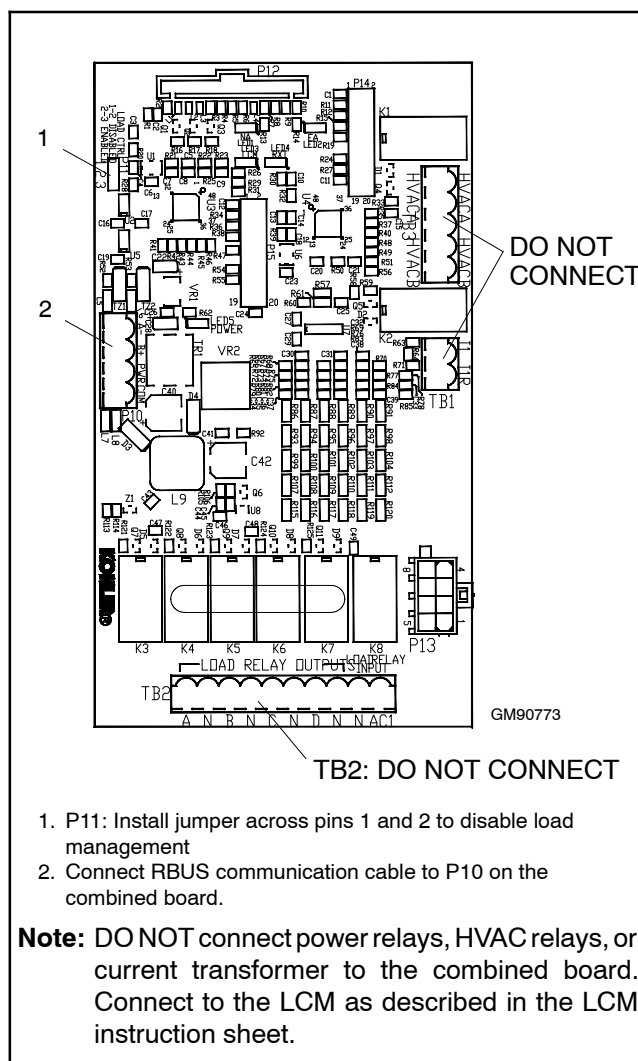

Figure 2-20 Combined Interface/ Load Management Board Connections with LCM
7. See Figure 2-20. Move the P11 jumper from terminals 2 and 3 to terminals 1 and 2 to disable the load management function on the combined board.
8. Connect RBUS communication cable to the combined interface board: Connect the generator controller's interface connection to A, B, PWR, and COM on terminal block P10 on the interface/load management board. See Figure 2-20. See Section 2.6 for detailed RBUS connection instructions.
- b. Connect the current transformer (CT) to the LCM. Do not connect the CT to the combined interface board in the RXT enclosure.